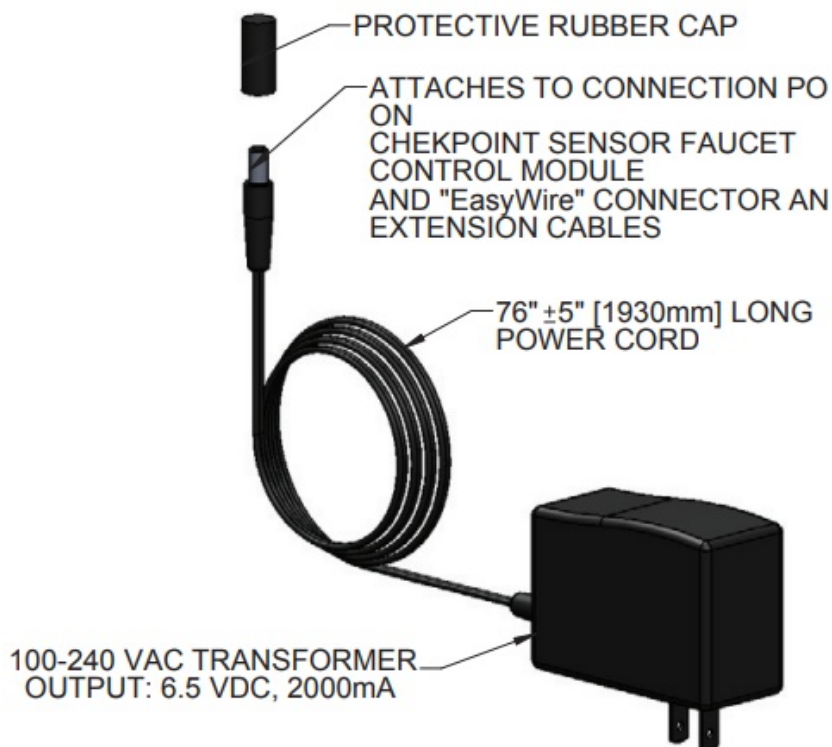

Figure 1
2. The EC-EASYWIRE kit consists of a 100-240 VAC transformer with a 76" long power cord which plugs into a standard wall outlet (**Figure 1**).